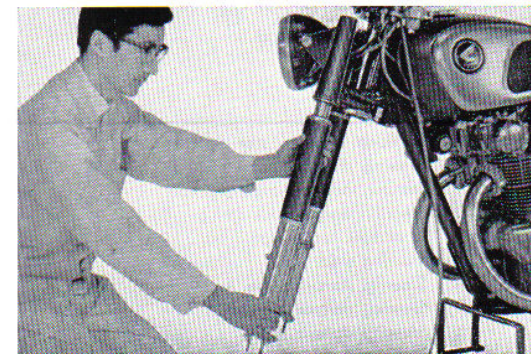

Fig. 4.23 Installing the front fork into the steering
5. Install the front cushion assembly on the steering stem. Fill each cushion with 285~295cc (17.4~18.0 cu-in) of hydraulic fluid through from the front fork bolt hole and install the front fork bolt upon completing the filling. Lock the cushion at the bottom bridge by tightening the 10mm bolt. (Fig. 4.23)